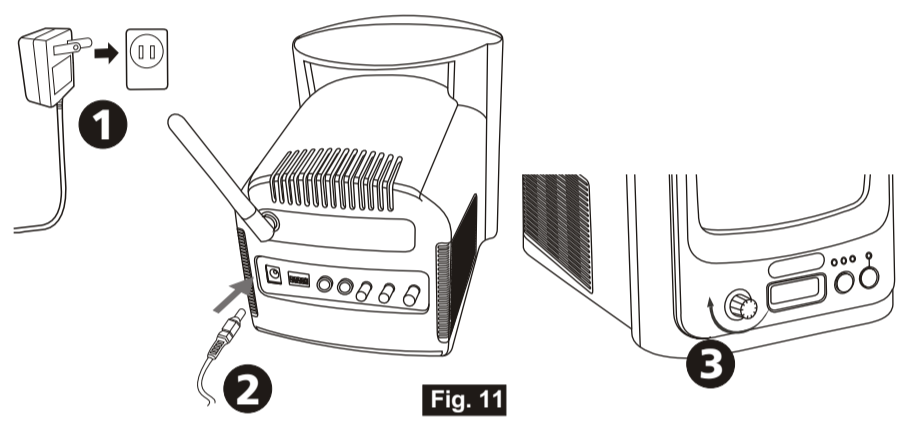

Fig. 11
1. Plug one end of the provided power adapter into a wall outlet and the other end into the back of the monitor. See Fig. 11. **Note:** Use the adapter labeled OUTPUT: 13.5VDC with the monitor.